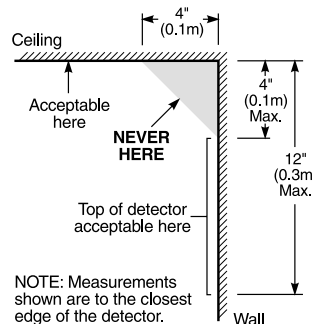

Figure 4
**Figure 4:** Smoke Detector mounting - "Dead" Air Space. The smoke from a fire generally rises to the ceiling, spreads out across the ceiling surface and begins to bank down from the ceiling. The corner where the ceiling and wall meet is an air space into which the smoke may have difficulty penetrating. In most fires, this "dead" air space measures about 4 in. (0.1m) along the ceiling from the corner and about 4 in. (0.1m) down the wall as shown in Figure 4. Detectors should not be placed in the "dead" air space.